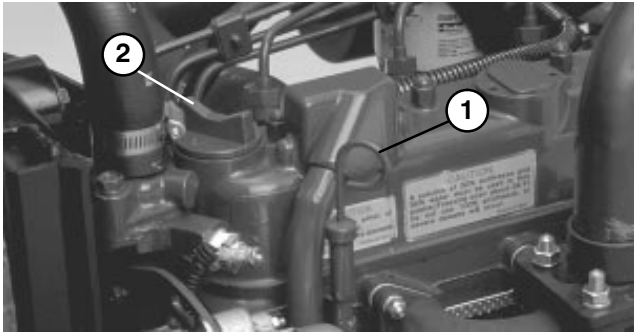
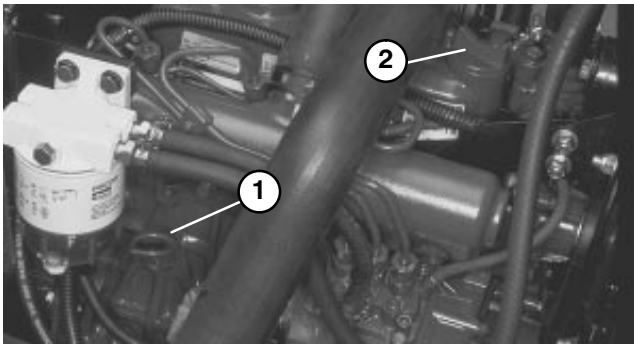

Figure 13
Figure 14
CHECK ENGINE OIL (Fig. 13 & 14)
2. Remove dipstick, wipe clean and reinstall dipstick. Remove dipstick and check oil level on dipstick; Oil level should be up to FULL mark (Reelmaster 5200 – Fig. 13, Reelmaster 5400 – Fig. 14).